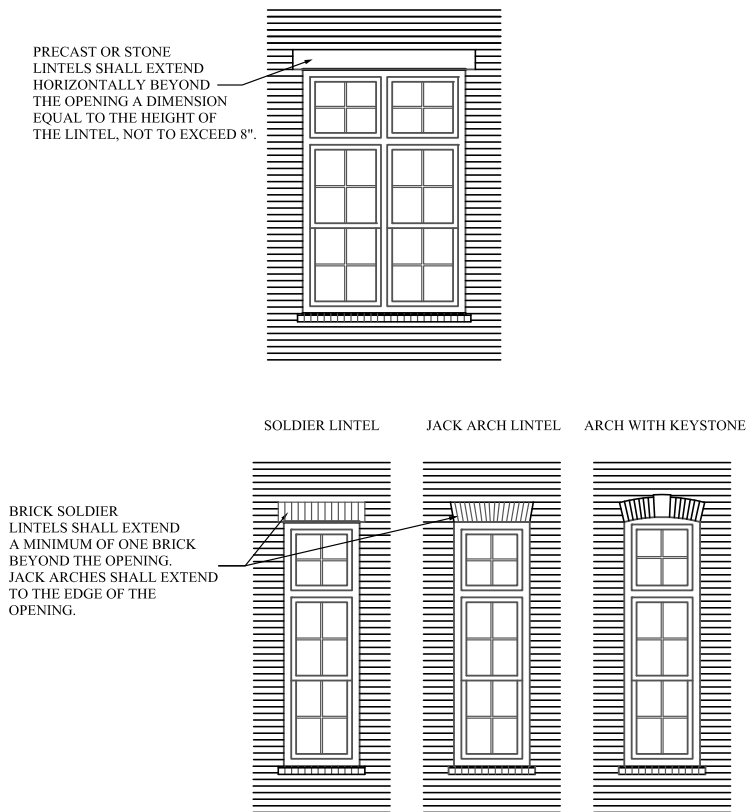

Figure 16
- » Brick soldier lintels (i.e., jack arches) shall extend a minimum of one brick beyond the opening and may project between 1/2” and 3/4” beyond the wall surface. See Figure 16.